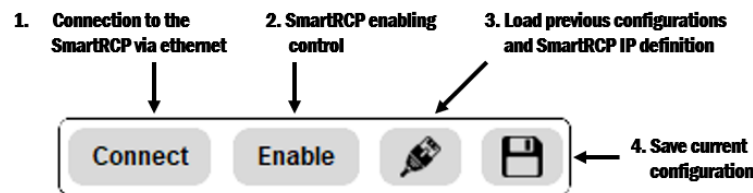

Figure 5: SmartRCP Setting Options.
1. **Connection button.** This button (Fig. 5) allows connecting or disconnecting the SmartRCP software interface from the physical device. The connection will be made using the IP address previously defined in the IP configuration option available in this menu.
2. **Enable button.** This button (Fig. 5) controls a signal that can be used to synchronize and manage the design implemented in the SmartRCP during the development phase in Vivado (Available in the IP WRITE REGISTERS).